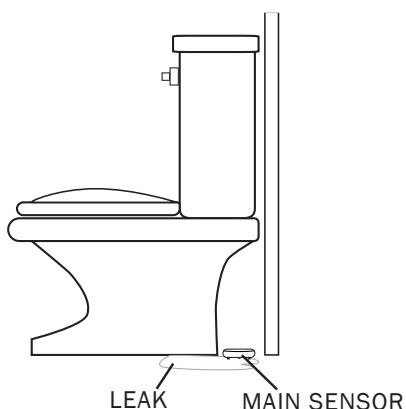

Figure 3 - Leak Sensor Installation Without the REMOTE SENSOR PROBE
- ✓ The MAIN BODY CRADLE and REMOTE SENSOR PROBE are optional, to help monitor hard-to-reach areas—study Figures 3 and 4 to understand when, where, and why to use the REMOTE SENSOR PROBE